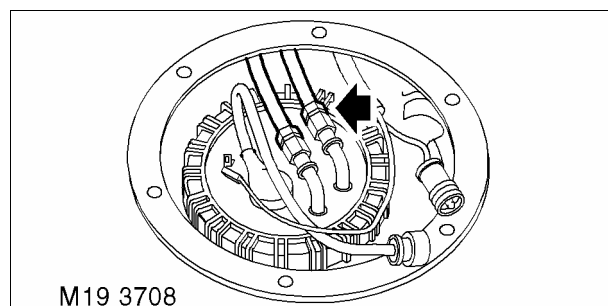

Fig. 7
- 15 Using **LRT-19-001** remove locking ring securing fuel pump tank unit assembly to fuel tank. Fig. 7.